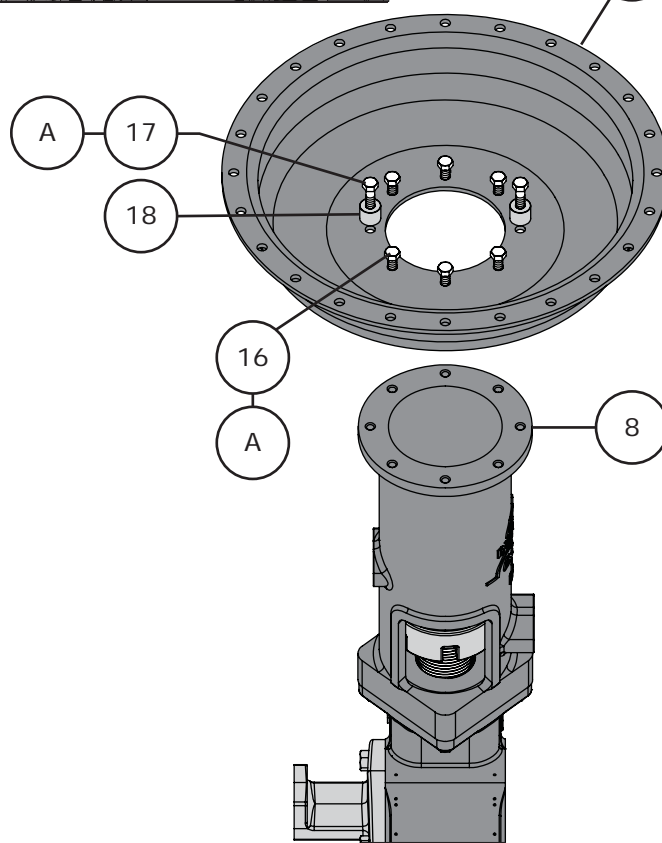

Figure 21 Spring Barrel Assembly
- 4 Lubricate the thrust bearing (Key 13) and one face of each of the bearing races (Key 12, 2 required) with green grease (Key F). Make a sandwich with the thrust bearing and bearing races by having a bearing race on top and bottom with the thrust bearing in between them. Refer to Figure 21.
- 8 Install the lower diaphragm casing (Key 15) using the shorter cap screws (Key 16) as shown in Figure 21. Install the travel spacers (Key 18) as shown in Figure 21, secure them in place using the longer cap screws (Key 17) to create the travel stops. Torque all cap screws to the torque specification listed in Table 4.